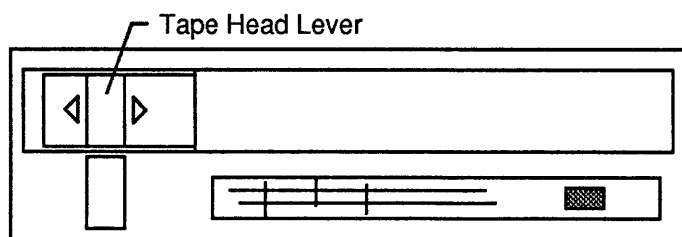

Figure B.2. Front View of Tape Drive
2. Engage the tape head assembly by sliding the tape head lever to the right. Refer to Figure B.2.